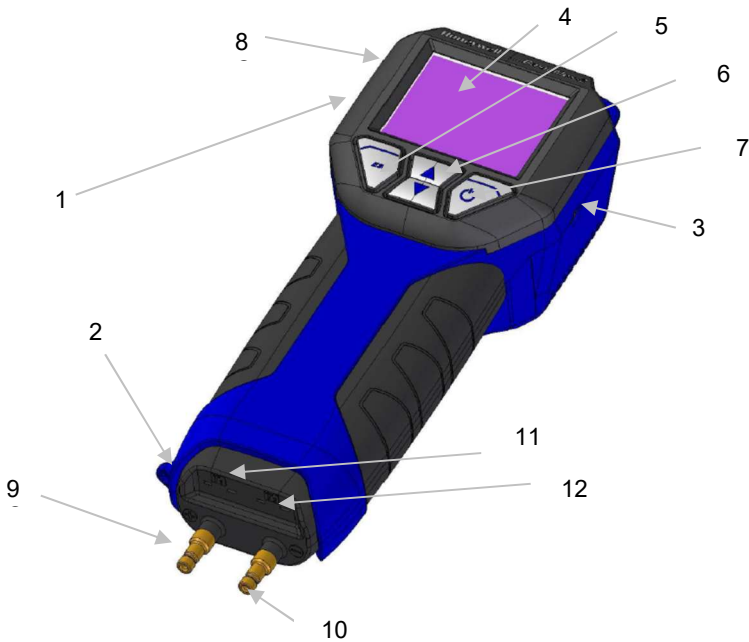

Fig. 1: Overview
14	Battery cover (in Fig. 1 on the rear side)
- Insert the plug of the S-tube probe into jack 11 (Fig. 1) of the Wöhler DC 410FLOW.
- Connect the overpressure hose (turned against the flow) of the S-tube probe to the overpressure socket (+) (Fig. 1, part 9) and the underpressure hose to the underpressure socket (-) (fig. 1, part 10).
- Insert the plug of the temperature measuring pliers into the jacks 11 and 12 (Fig. 1) of the Wöhler DC 410FLOW.
- Insert the plug of the Wall Temperature Probes into the jacks 11 and 12 (Fig. 1) of the Wöhler DC 410FLOW.
- Before you plug the recharger into the outlet, connect it with the charging connection of the DC 430FLOW (Fig. 1, part 3)